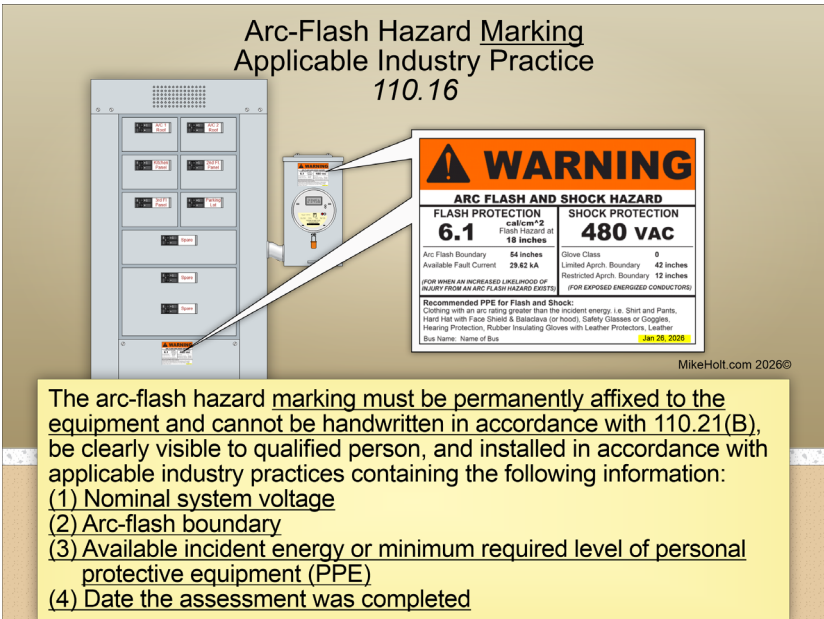

Fig. 5.
- (1) Nominal system voltage
- (2) Arc flash boundary
- (3) Available incident energy or minimum required level of personal protective equipment \(PPE\)
- (4) Date the assessment was completed (Fig. 5 on page 38)